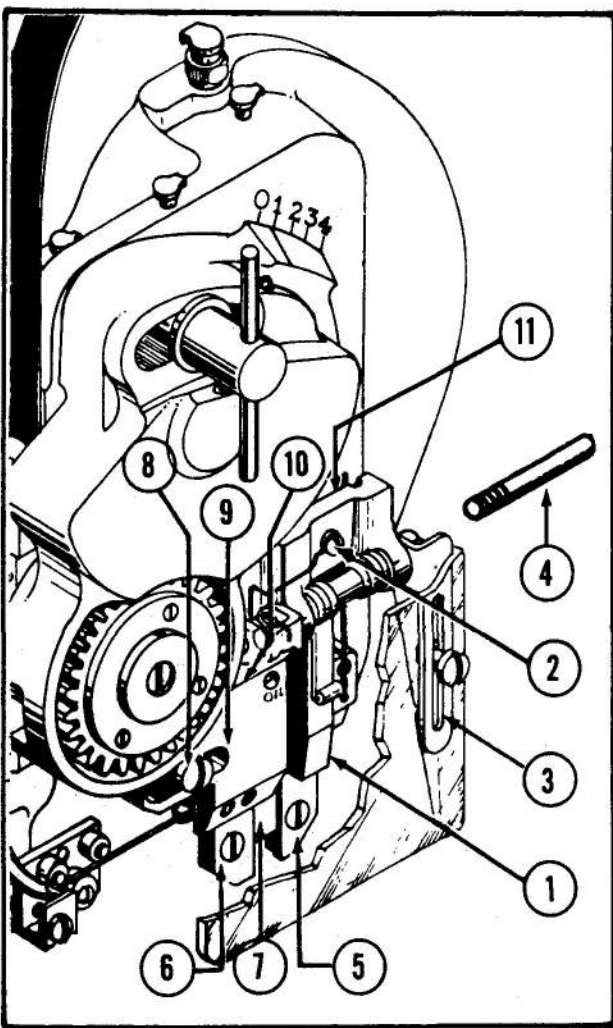

Figure 19—Removing and Replacing Gripper, Formers and Driver
e. GRIPPER (See Fig. 19)—Check for excessive wear at edges of gripper bar (1) anvil (surface upon which staples are formed), usually evidenced by rounded corners on formed staple.
4—When reinstalling gripper assembly in head, be sure that upper stud in gripper bar clamp piece, (153), Fig. 23, engages in slot in gripper clamp piece control slide, (167), Fig. 23; then replace and tighten gripper pivot screw, (4), Fig. 19.
f. FORMERS AND DRIVER (See Fig. 19)—Check for wear in grooves of formers (5) and (6), usually evidenced by buckled staple legs.